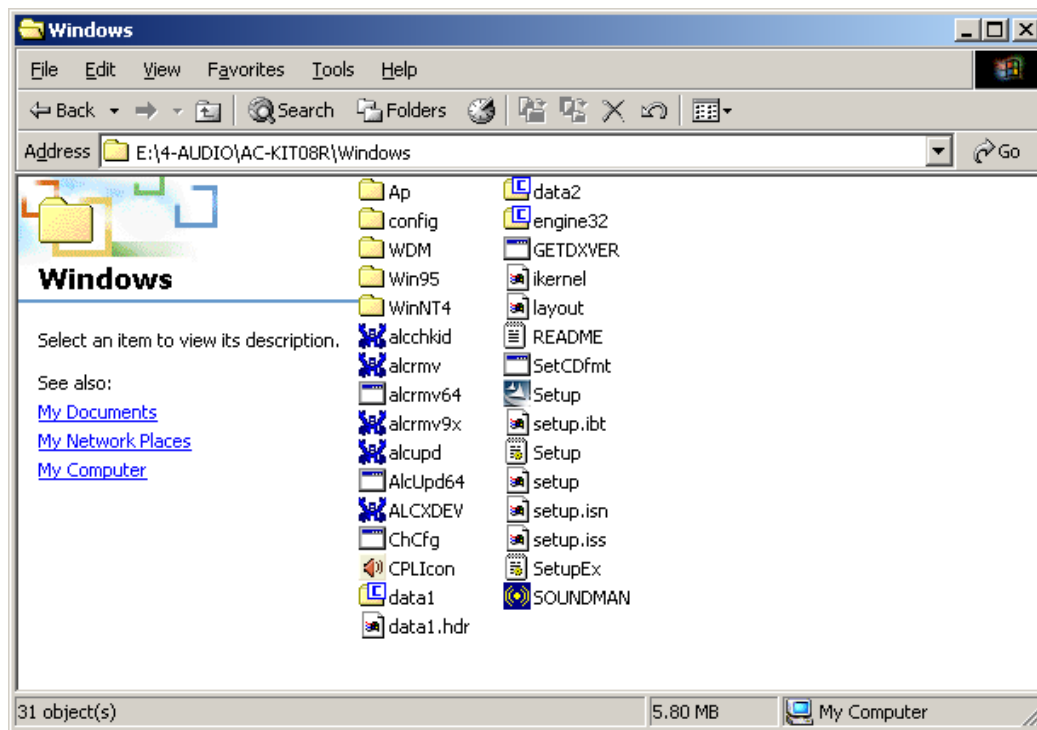

Figure 7-27: CD 4-AUDIO\AC-KIT08R\Windows Folder
- Step 2:** From the main driver menu, navigate to **X:\4-AUDIO\AC-KIT08R\Windows** (or other appropriate OS). **X:** represents the system CD drive. A new window appears showing the folder contents (**Figure 7-27**).